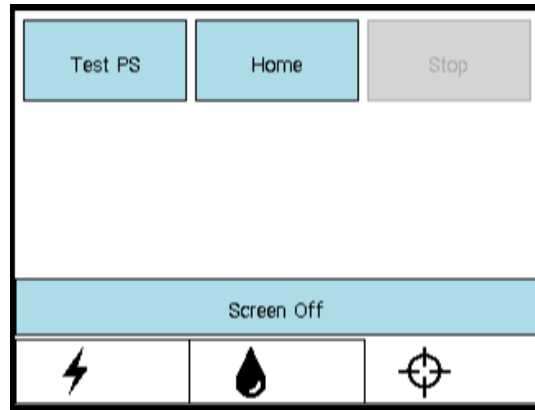
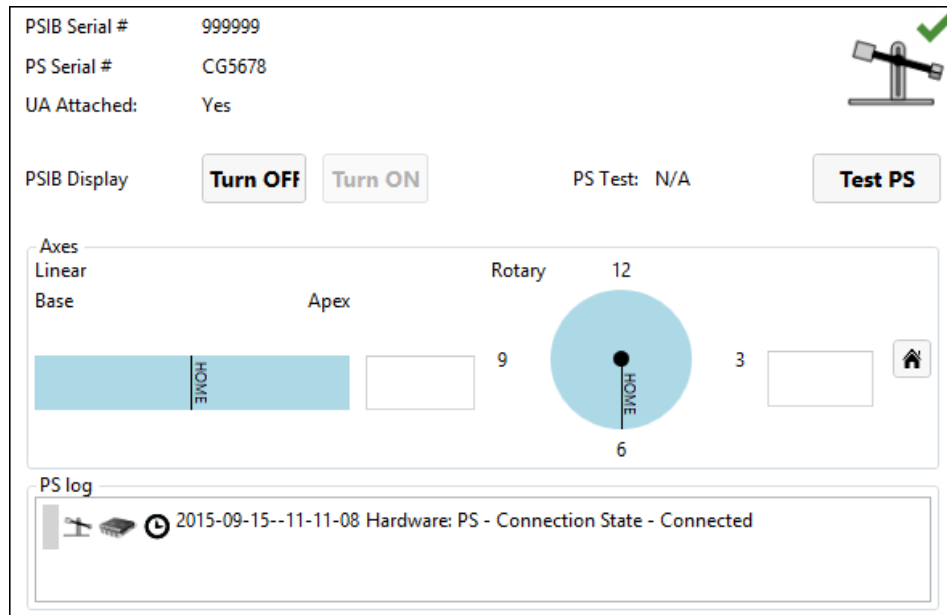

Figure 15: PSIB display - PS tab
Figure 16: PS information box in Setup workspace
- On the PSIB display, select the PS tab and click **Test PS** (Figure 15). The system will translate the PS forward and backward to test the continuity and functionality of the translation axis as well as home the PS in the translation axis. The system will also rotate the rotational axis clockwise and counter-clockwise to test the continuity and functionality of the rotational axis. (This can also be done from the TDC Setup workspace in the PS information box in the bottom-right quadrant Figure 16.)